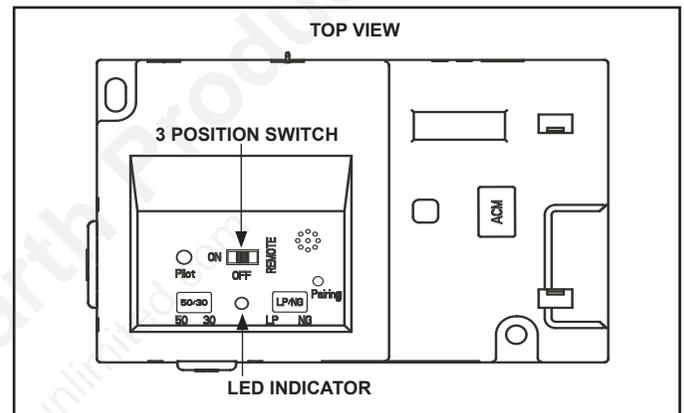

Figure 3.8 IFT-ECM
- Slide the ON/REMOTE/OFF switch to the ON position. See Figure 3.8.
1. The Electronic Control Module (IFT-ECM) has a three-position ON/OFF/REMOTE selector switch that must be set for proper operation. See Figure 3.8. When changing switch positions, it is important to pause in each position for 1-2 seconds.